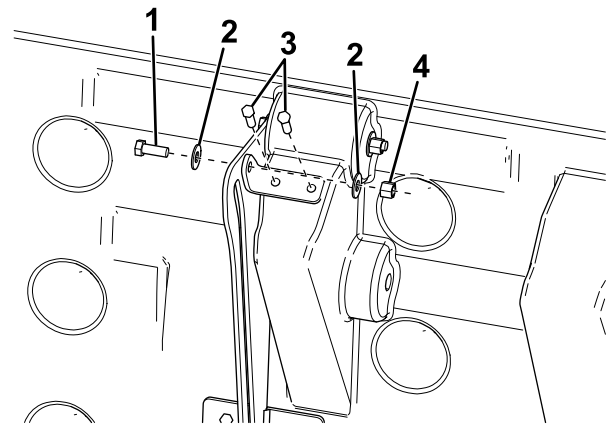

Figure 5
- Attach a support bracket to the track using a bolt (3/8 x 1 inch), 2 washers, and a nut (Figure 5).
- Use a square to ensure the track is not tilted, then secure the support bracket to the cover using 2 lag screws (Figure 5).